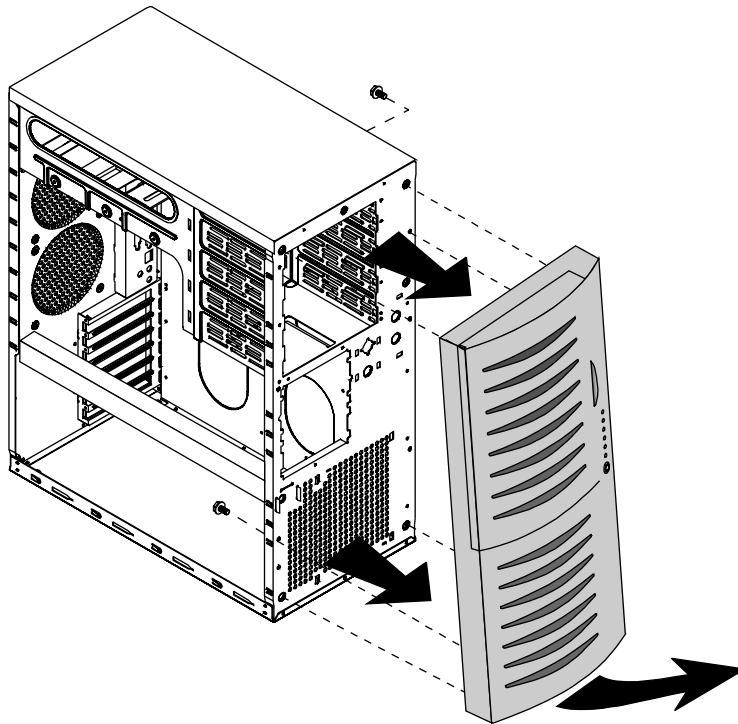

Figure 2: Removing the Bezel
4. From the inside of the chassis, remove the two screws securing the bezel to the chassis. See Figure 2.